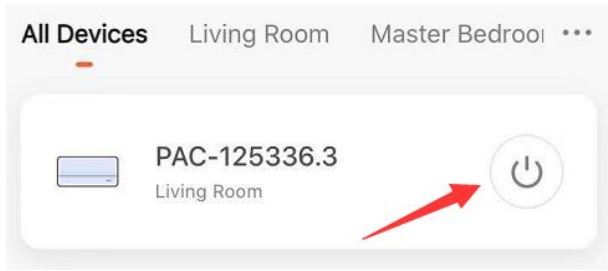

Fig.5
7. Press the arrow at the top left corner, you can get back to the home page, on which you can simply turn on or turn off your appliance. (Fig.5)